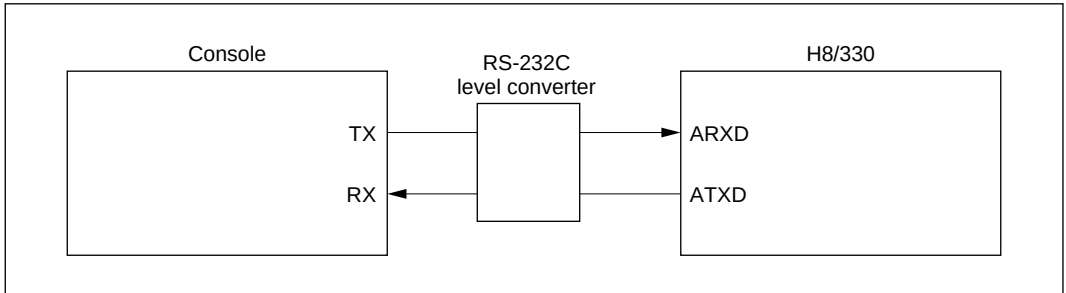

Figure 1 Asynchronous Interface using H8/330's SCI
1. This sample task uses the H8/330's serial communication interface (SCI) in asynchronous mode to exchange one-byte data with a console as shown in figure 1.